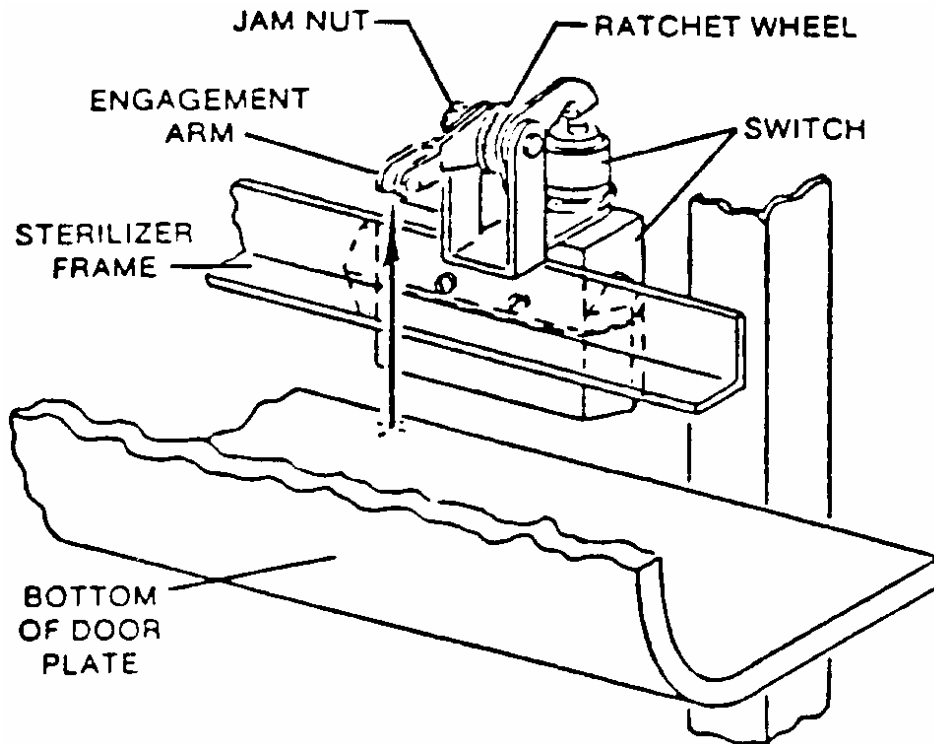

Figure 1-16. Door switch adjustment.
(3) Adjust the door switch. Refer to figure 1-16.